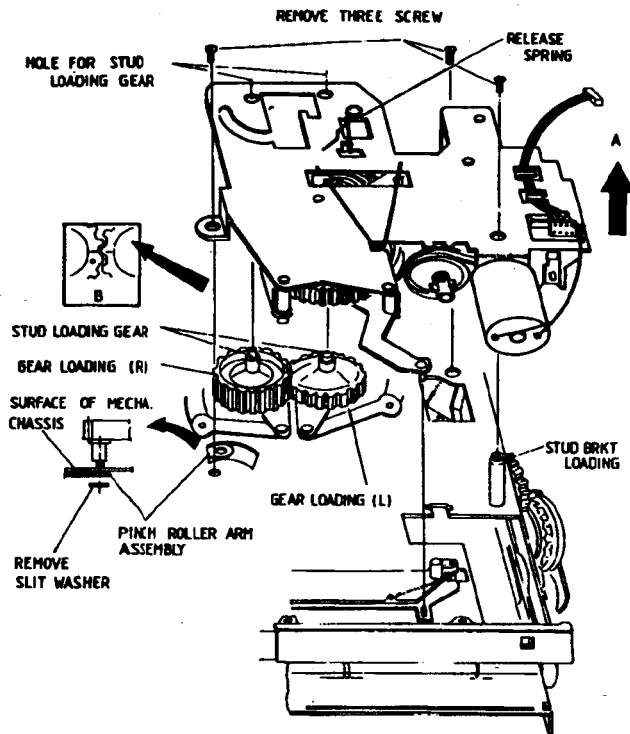

Fig.29
4. Remove the loading motor assembly. (See Fig. 29)